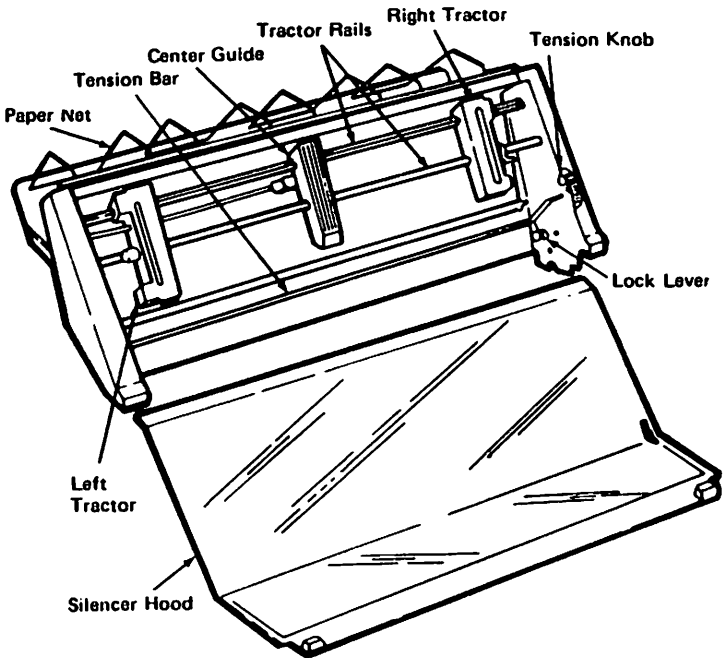

Figure 19 Bi-directional forms tractor
The following sections provide information on selecting paper, loading paper, removing paper, and clearing paper jams on the bi-directional forms tractor (Figure 19).
6. Remove the form from the tractors and position the center guide (Figure 19) midway between the tractor assemblies.